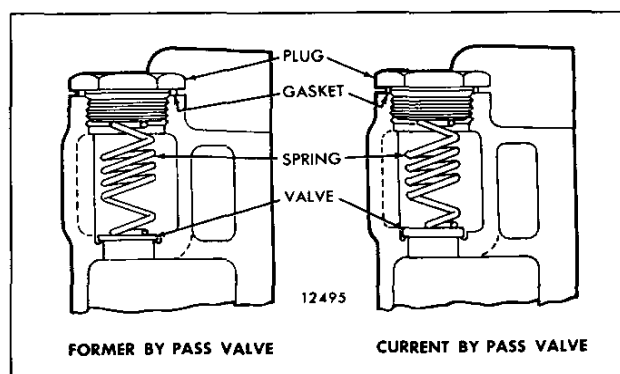
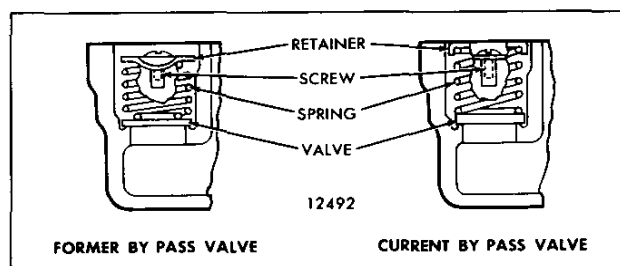

Fig. 6 – Bypass Valve Assembly Secured by Plug
Fig. 7 – Bypass Valve Assembly Secured by Retainer and Screw
2. Remove the plug and gasket (Fig. 6) or the screw and retainer (Fig. 7) and withdraw the spring and bypass valve.
5. Reassemble and install the bypass valve. Use only the current bypass valve and spring for service (Fig. 6). The current thicker valve and stiffer spring increase the bypass pressure from 13–18 psi (90–124 kPa) to 18–21 psi (124–145 kPa) to permit more efficient filtration. A thicker valve, stronger spring, heavier retainer and a longer retaining screw are currently used in the bypass valve assembly shown in Fig. 7. The filter adaptors and filter junction housings have been revised by deepening the valve cavity to accommodate the thicker valve and related parts.